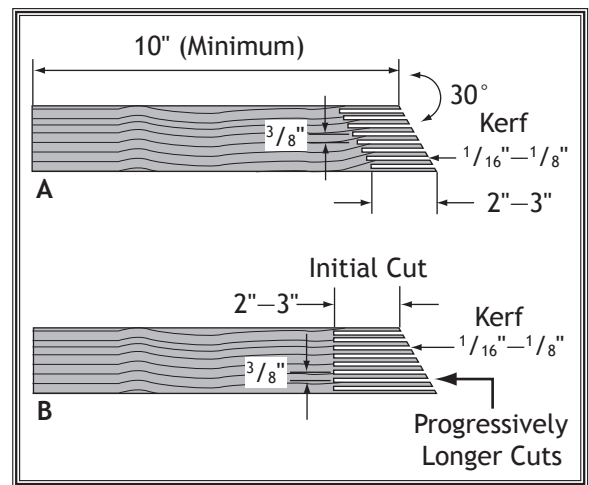

Figure 75. Patterns for making featherboards.
3. Make a series of end cuts with the grain $\frac{3}{8}$ "- $\frac{1}{4}$ " apart and 2"-3" long, as shown in **Figure 75** (A). Alternatively, start cuts at 2"-3" deep, then make them progressively deeper, as shown in **Figure 75** (B).